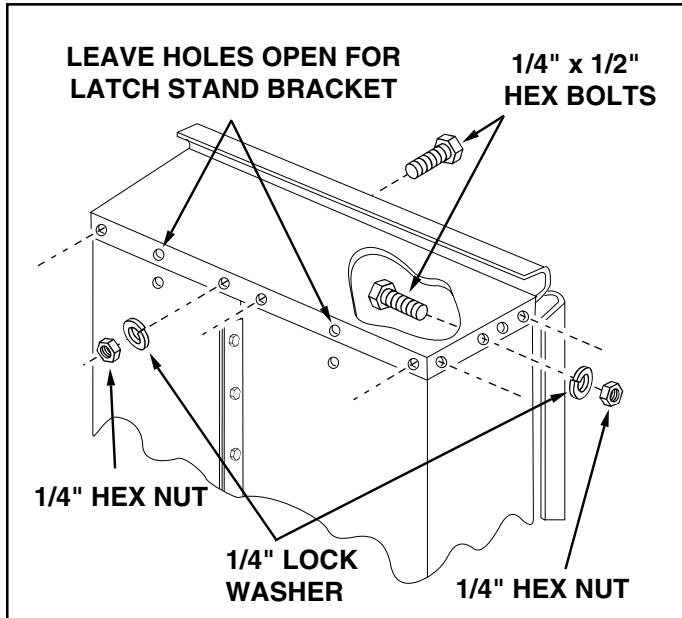

FIGURE 5
9. Assemble the front panel over the end of the cart using ten 1/4" x 1/2" hex bolts, 1/4" lock washers and 1/4" hex nuts as shown in figure 5. Leave two holes in the bottom of the panel empty as shown. With the cart body halves pulled together, **tighten** the bolts in the bottom of the front panel, then **tighten** the bolts in the sides. See figure 5.